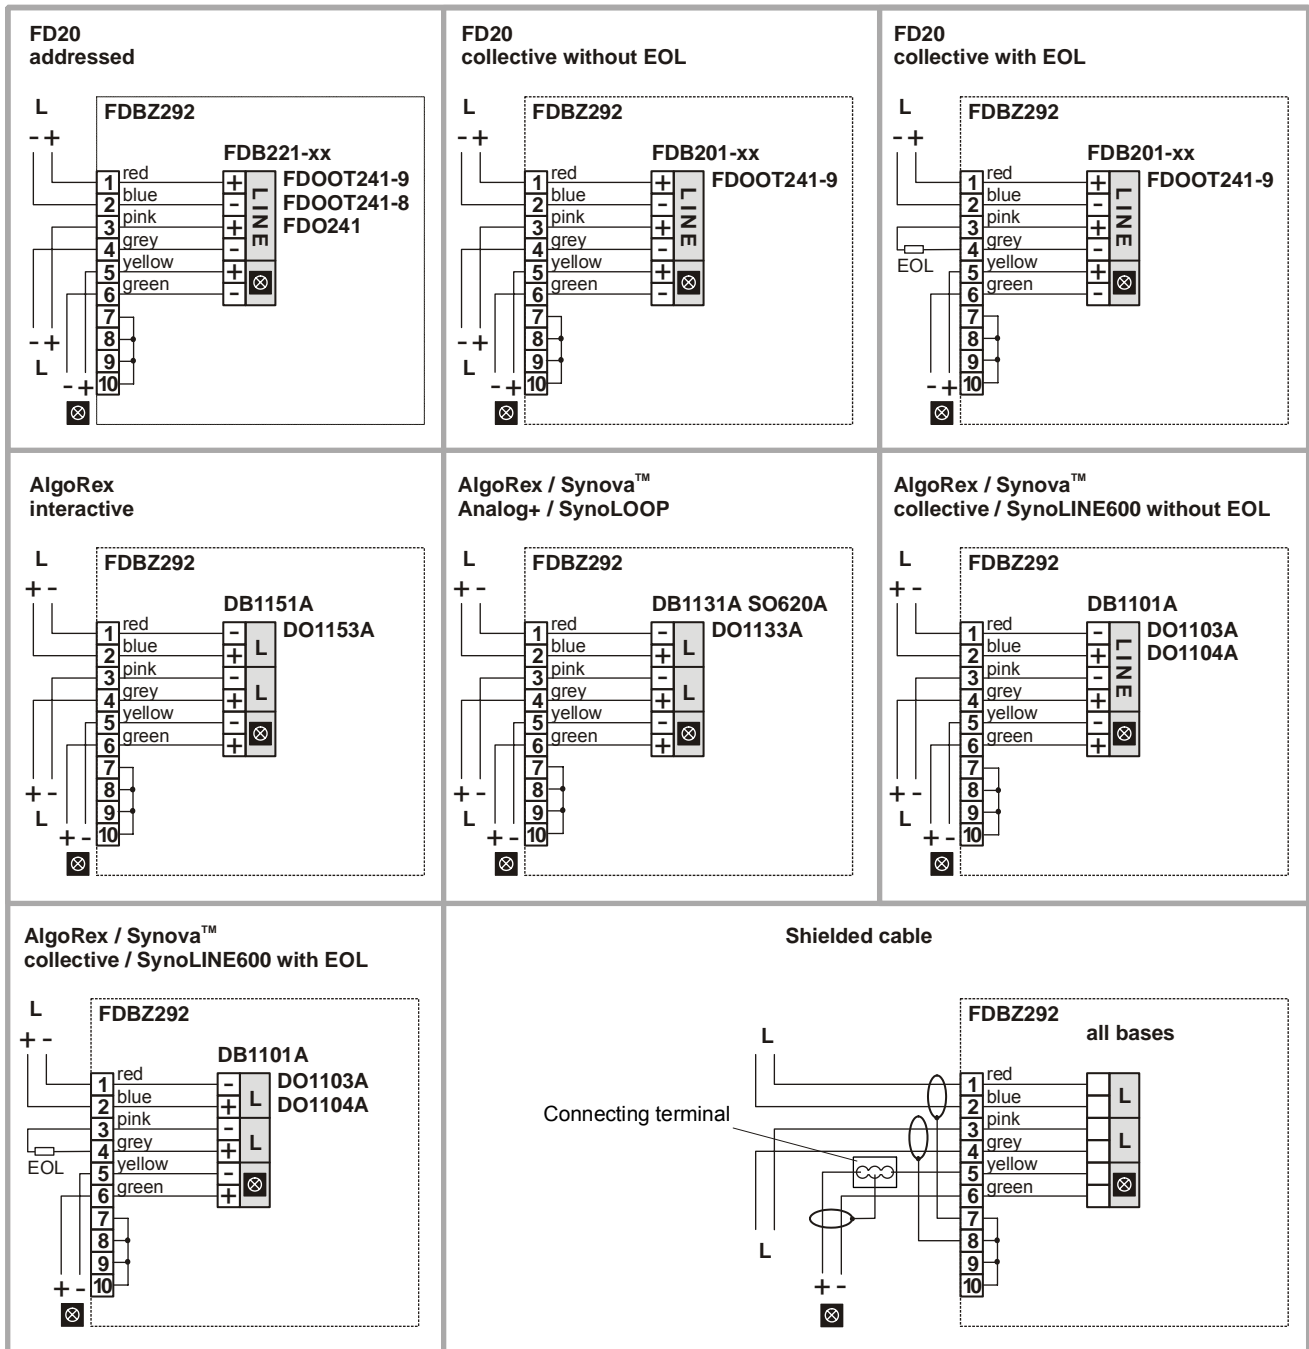

Fig. 10
2. Mount the detector base in the housing. Connect the detector base in accordance with the connection diagram (Fig. 10).
1. Connect the air sampling smoke detector kit to the detector line. Comply with the different connection diagrams shown in Fig. 10 for the different detector lines.
2. Connect the shields of the stripped cables as shown in the connection diagram (Fig. 10).